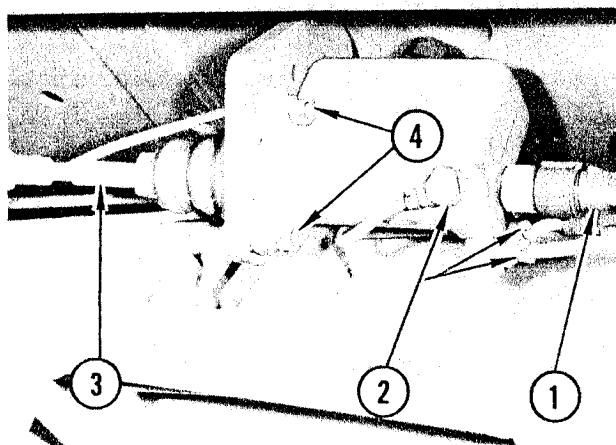

FIGURE 7. REMOVE MASTER CYLINDER
Refer to Figure 7. Pull stop light plug (1) from socket. Disconnect all hydraulic